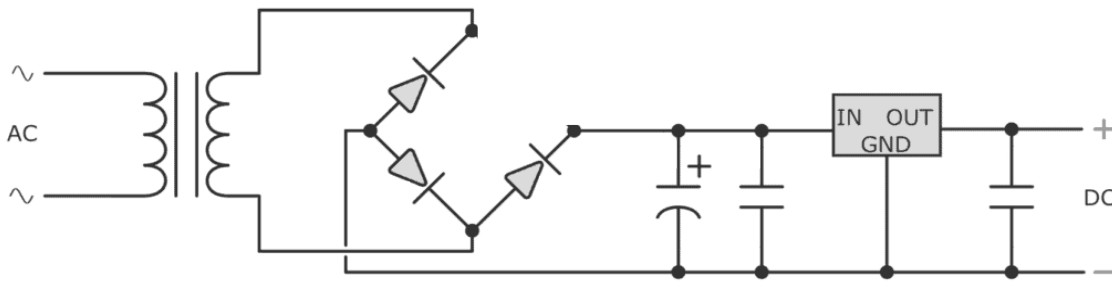
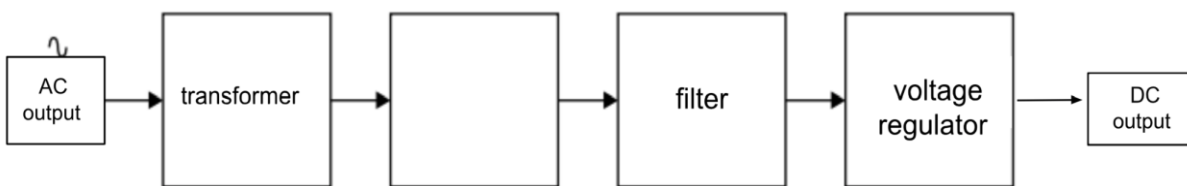

Figure 14
Figure 15
The stages of a typical DC power supply such as the one shown in Figure 14 can be represented as the block diagram in Figure 15.
- i. Complete Figure 14 by adding the missing component that allows this.
- ii. Complete Figure 15 by stating the common name of this part of the circuit.
- b) Circle the voltage regulator on Figure 14.